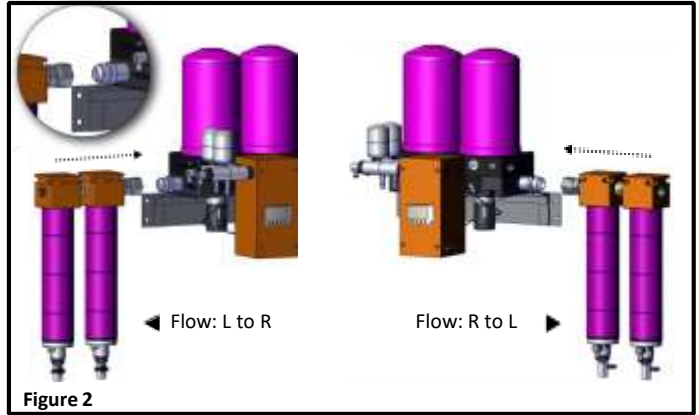

Figure 2
3. Using an adjustable or 1-3/8" wrench, connect the supplied FEMALE JIC fitting to the outlet port of the Tsunami pre-filter assembly. Use appropriate thread sealant. *Figure 2*
4. Using appropriate thread sealant, install the MALE JIC connector to the INLET / AUX port of the dryer per your preferred flow direction. *Figure 2*